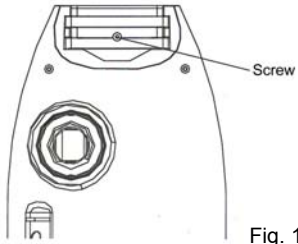

Fig. 1
1. Remove the screw located just below the top edge of the back of the vacuum. (fig. 1)